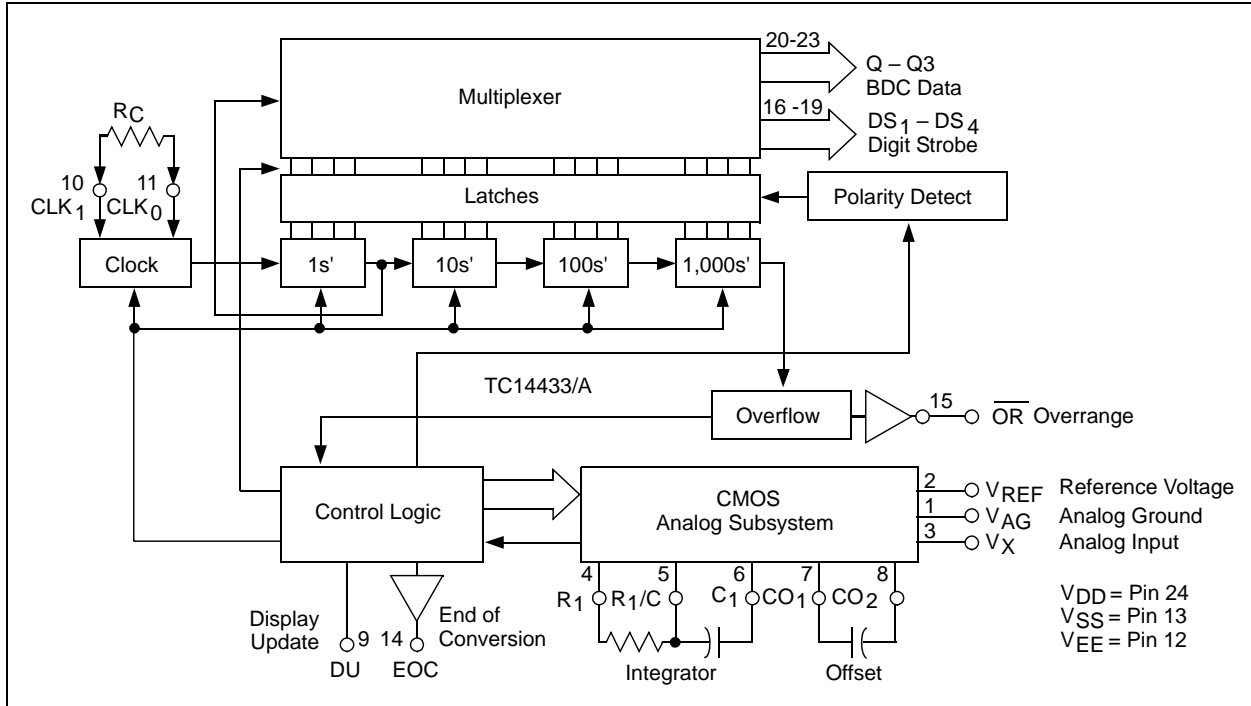

**FIGURE 4-2:** Equivalent Circuit Diagrams of the Analog Section During Segment 4 of the Timing Cycle
**Segment 4** – Segment 4 is an up going ramp cycle with the unknown input voltage ( $V_x$  as the input to the integrator). Figure 4-2 shows the equivalent configuration of the analog section of the TC14433. The actual configuration of the analog section is dependent upon the polarity of the input voltage during the previous conversion cycle.